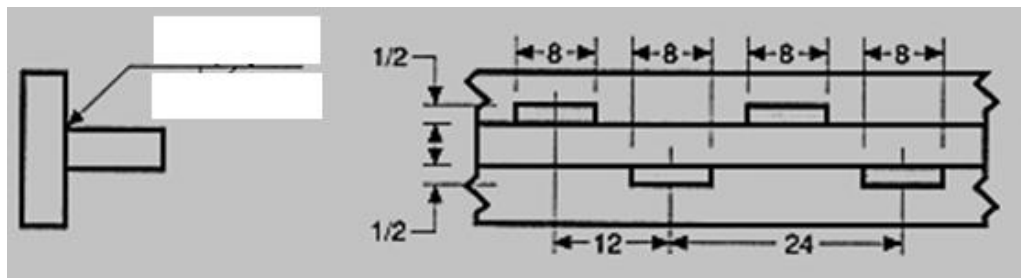

Figure 1
- (a) Identify the **type of fillet weld** and sketch an AWS welding symbol for the joint image in **Figure 1**. (10marks)